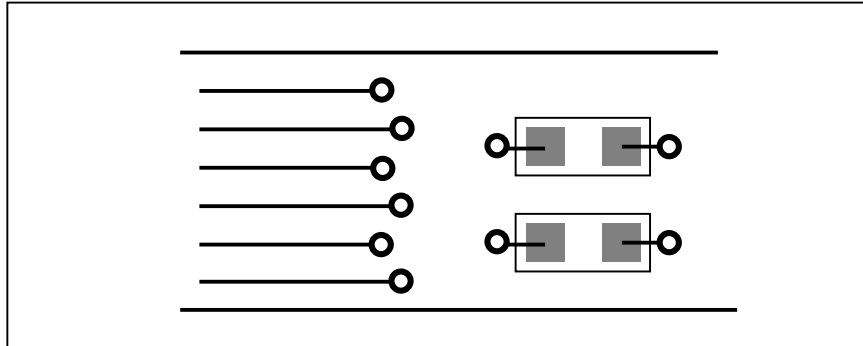

Figure 2-2 Capacitors Near Vias
- It's better to route the system memory traces on the layer near the ground layer. If some of traces route on the layer near power layer, a 0.1uF capacitor per three vias should be added between the power layer and the ground layer near the vias as Figure 2-2. And do not route any signals in the field of vias that do not change layers.